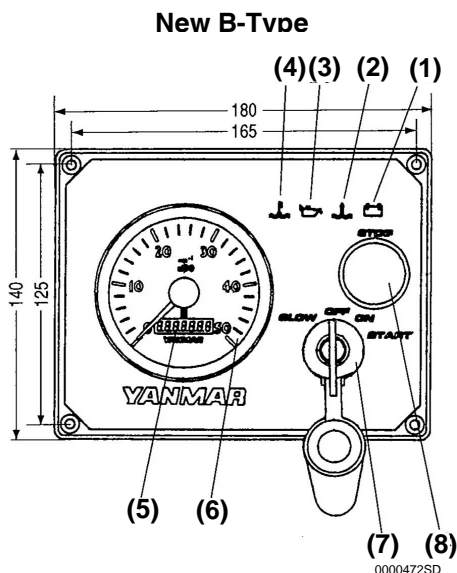
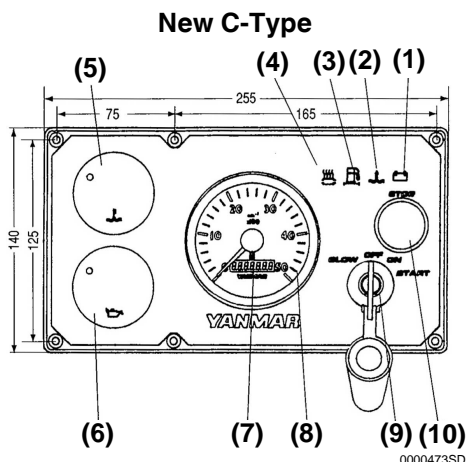

Figure 5
Figure 6
Turn the battery switch on. Turn the key to the ON position and check the lamps on the panel (**Figure 5, Figure 6**) with the engine off:
1. The lubricating oil warning lamp should be illuminated ((**Figure 5, (3)**), (**Figure 6, (6)**)) .
2. The cooling water temperature warning lamp should be out ((**Figure 5, (4)**), (**Figure 6, (5)**)) .
3. The charge warning lamp should be illuminated ((**Figure 5, (1)**), (**Figure 6, (1)**)) .
4. The rubber seal warning lamp should be out ((**Figure 5, (2)**), (**Figure 6, (2)**)) .